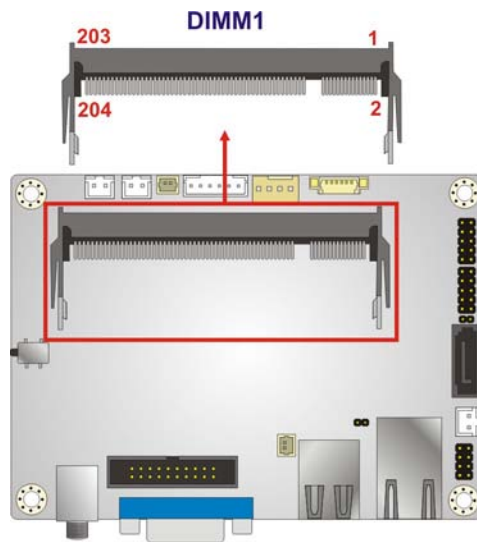

Figure 4-9: DDR3L SO-DIMM Slot Location
- CN Location: See **Figure 4-9**